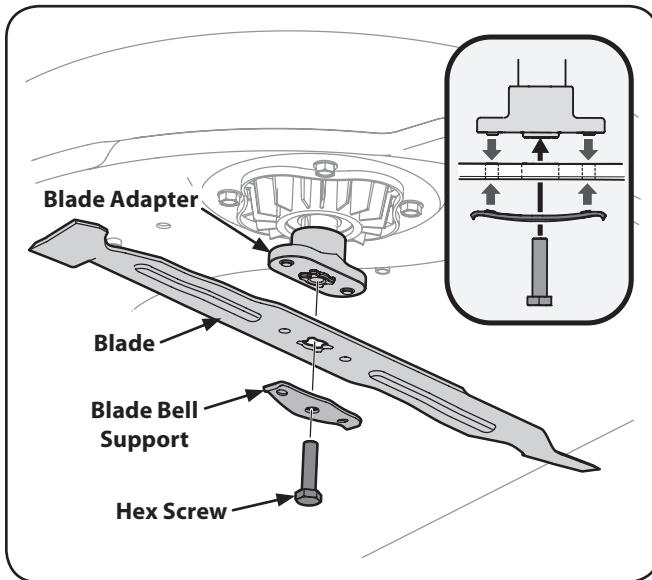

Figure 6-1
2. Remove the hex screw and the blade bell support which holds the blade and the blade adapter to the deck motor. See "Figure 6-1".
3. Remove blade and adapter from the deck motor spindle. See "Figure 6-1".